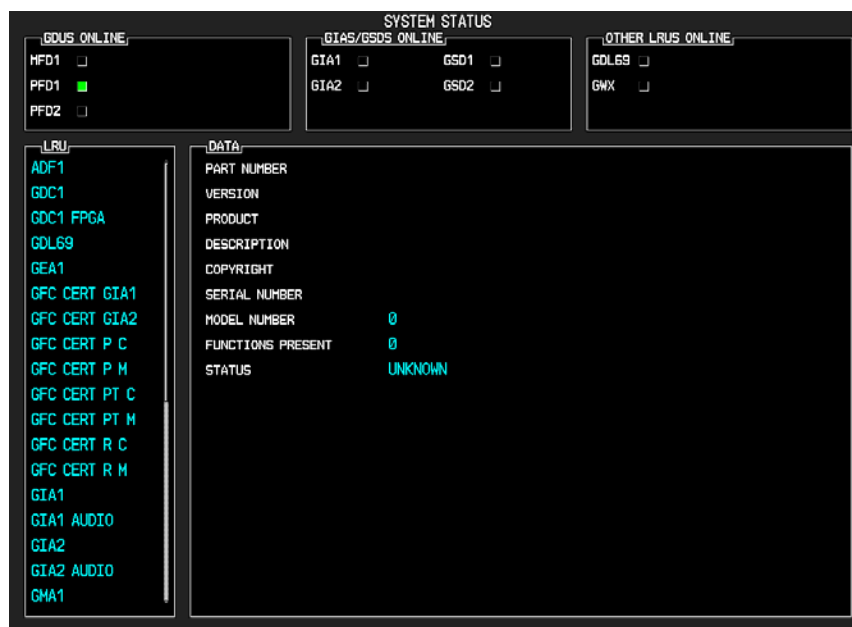

Figure 4-1. System Status Page (Configuration Mode)
- Press and hold the ENT key on the PFD and the rightmost softkey on the MFD and apply power. Release the keys when the words 'INITIALIZING SYSTEM' are displayed in the upper left corner of each display. The System Status Page is displayed (Figure 4-1).